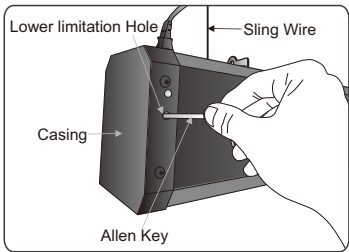

Figure 25
- b.Lower limitation adjusting. Take off the knob from the hole and use the provided allen key to adjust (figure 25). A clockwise adjustment will extend the screen (The distance between the screen and installation position will increase) and a counter-clockwise adjustment will retract the screen (. The distance between the screen and installation position will decrease).